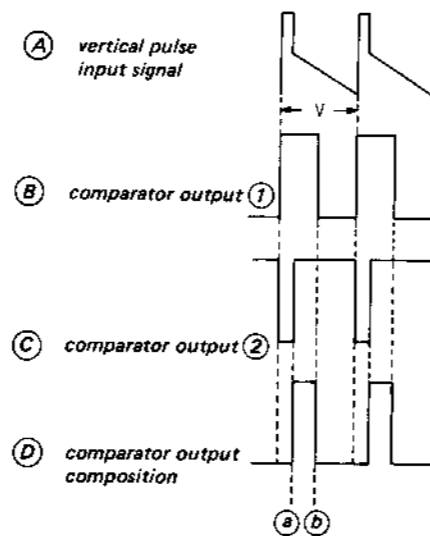
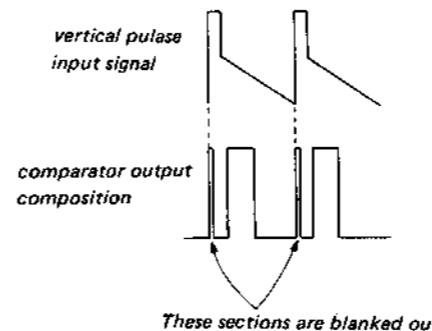

Fig. 5.
Fig. 11.
RV111 controls the timing at point (a) and RV110 the one at point (b) (Fig. 5). Since jitters occur if vertical pulse (A) is inputted directly to the comparator, the pulse is applied to the comparator through the low pass filter.
The composite waveform of the comparator outputs illustrated in Fig. 5 is the ideal waveform and a pulse for 3H appears on the rising section of the vertical pulse and the pulse appears on the picture as a fly-back line. (See Fig. 11.)